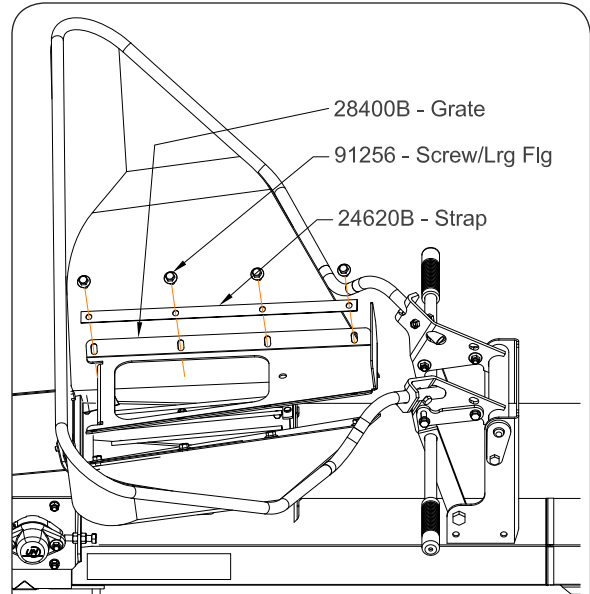

FIG. 2-6
7. Attach the sides of the vinyl hopper to the tube conveyor with the previously removed parts (screws/lrg flg - 91256; straps - 24620B; grate - 28400B; and nuts - 91257) as shown in FIG. 2-6.